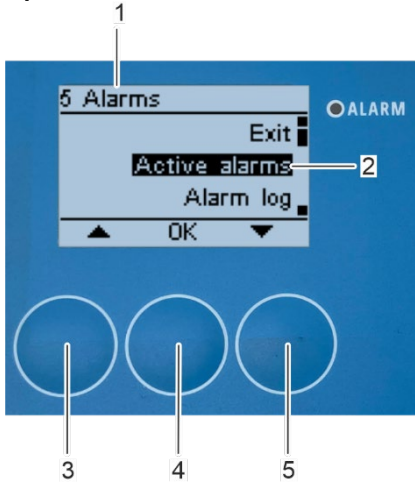

Fig. 183: Open submenu “Active alarms”
⇒ The "5 Alarms" submenu appears on the display (Fig. 183/1).
1. Select the “Active alarms” submenu (Fig. 183/2) with the arrow keys [up] (Fig. 183/3) and [down] (Fig. 183/5).
2. Confirm the selection with [OK] (Fig. 183/4).